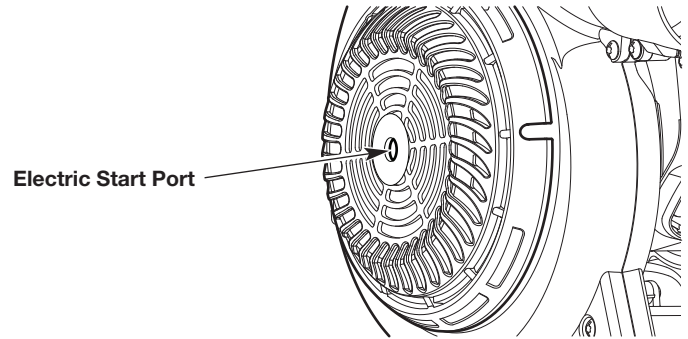

Fig. 14
6. Insert the electric start accessory into the electric start port (Fig. 14). Refer to the *Operation* section of the electric start accessory operator's manual.